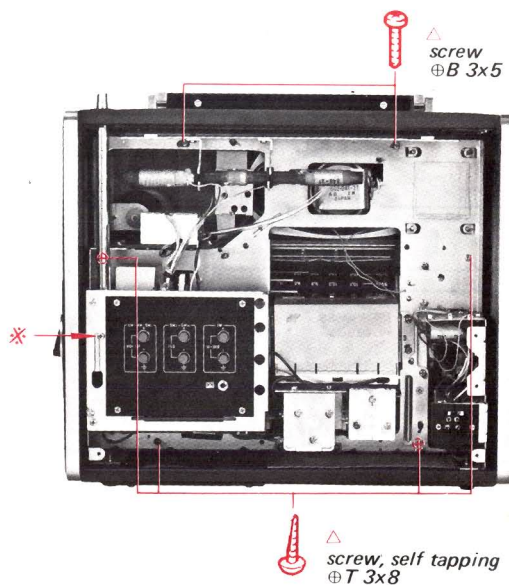

Fig. 2-3
4. Remove the six screws marked Δ which fasten the front panel to the chassis in Fig. 2-3.